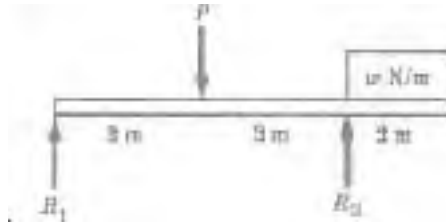

Figure 6
6. A wooden beam 150 mm wide by 300 mm deep is loaded as shown in figure 6. If the maximum flexural stress is 8 MN/m², find the maximum values of w and P that can be applied simultaneously. [15]